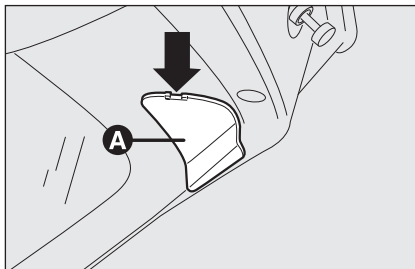

fig. 35
- remove cover **A-fig. 35** working with a screwdriver in the point indicated by the arrow;
- close cover **A-fig. 35**.
- remove the cover **A-fig. 35** working in the point shown by the arrow;